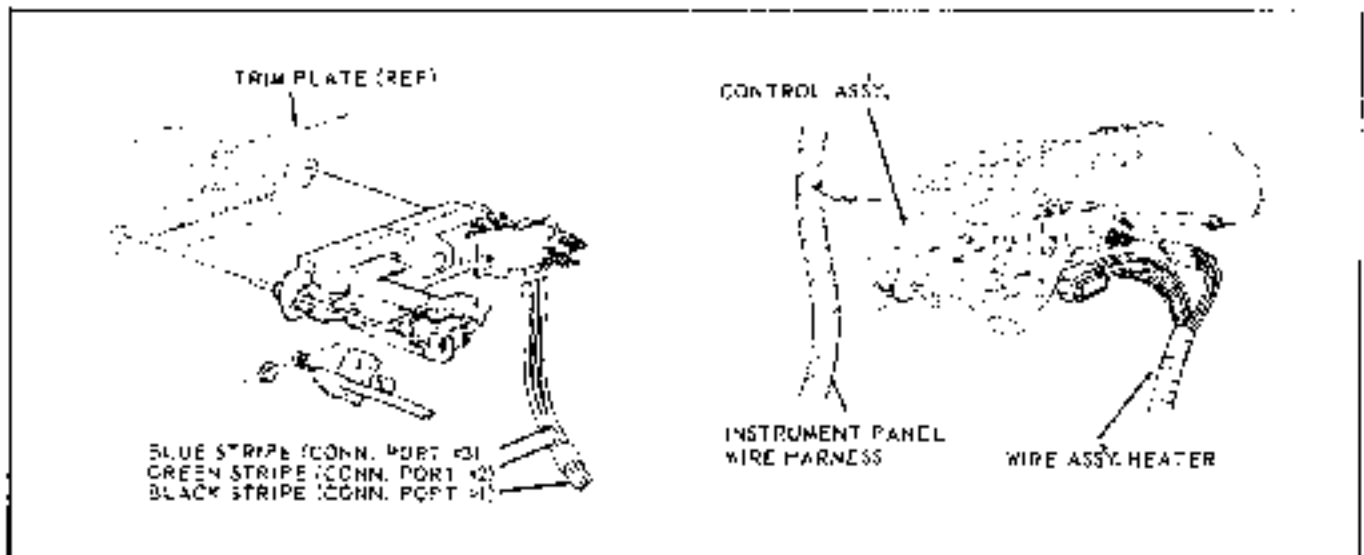

Fig. 1-4 Control Panel Connection—Partic.
SELECT AND VACUUM VALVE SWITCH REPLACEMENT (Fig. 1-4)
2. Disconnect temperature control cable at the heater control switch (Fig. 1-4).